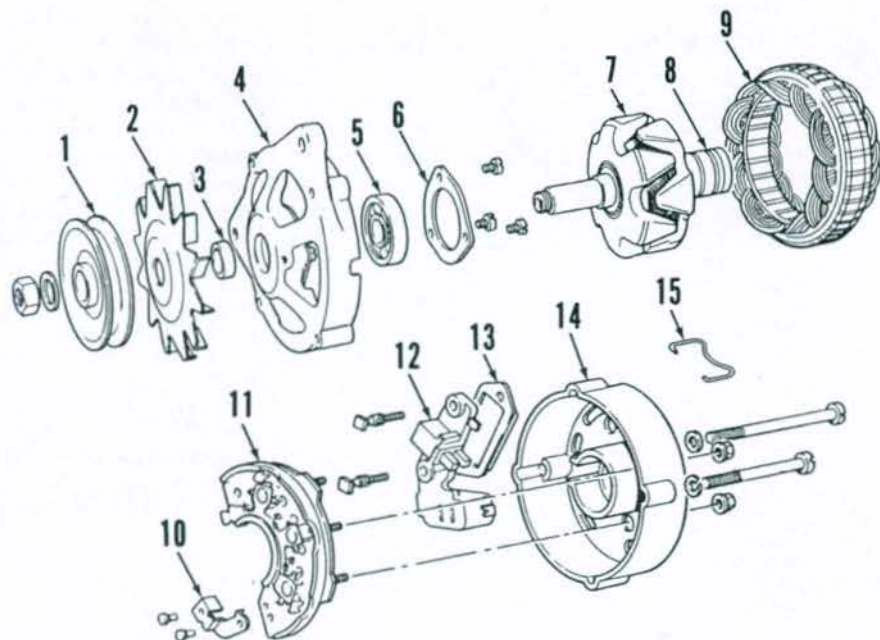

Fig. 108—Exploded view of Perkins alternator used on some MF240 and MF250 tractors.
106. OVERHAUL. Prior to disassembly, scribe matching marks across end frame (4—Fig. 108) and rear housing (14) to ensure correct alignment for reassembly. Remove four through-bolts, then separate end frame with rotor from rear housing and stator. Hold rotor in a vise, then remove pulley nut, pulley (1), fan (2) and spacer (3) from rotor shaft. Separate rotor from end frame. Remove front bearing (5) from end frame and rear bearing (8) from rotor if necessary.